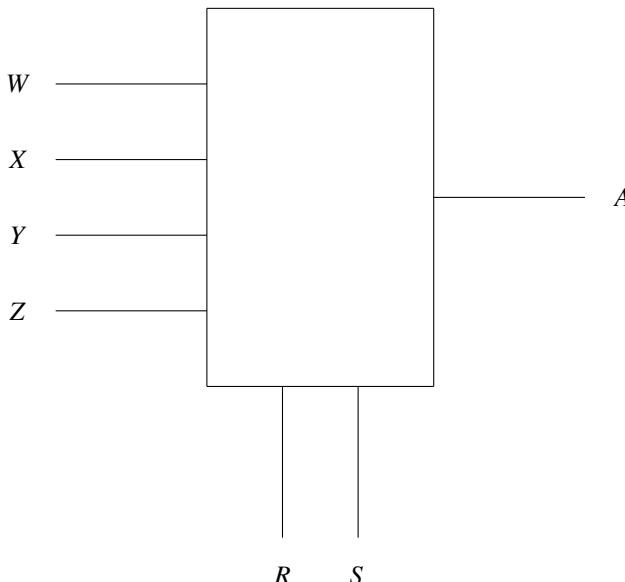

Fig. 4.12
25. Consider the 2-bit multiplexer(MUX) shown in Fig. 4.12. For output to be the XOR of R and S, the values for  $W, X, Y$  and  $Z$  are ?